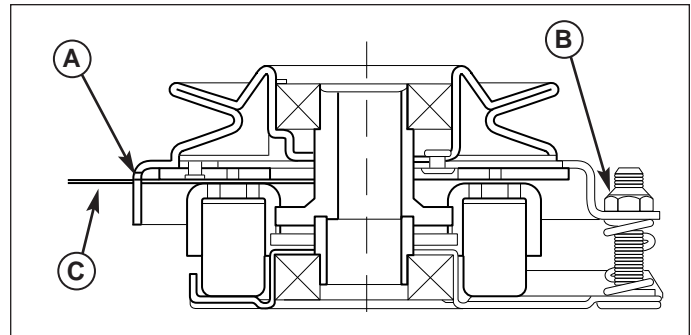

Figure 25. Adjust PTO Clutch
3. Insert a .012"-.015" (2,5-4mm) feeler gauge (C) through each window, positioning the gauge between the rotor face and the armature face as shown in Figure 25.